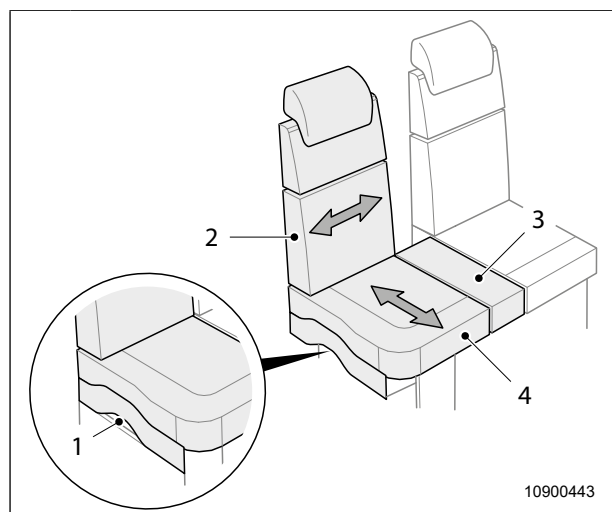

Fig. 21 Seat bench
1. Reach into the opening (Fig. 21, item 1) and pull the handle upwards.
2. Push the seat (Fig. 21, item 2) towards the other seat.
3. Clamp the compensating cushion (Fig. 21, item 3) between the seats.
1. Remove the compensating cushion (Fig. 21, item 3).
2. Reach into the opening (Fig. 21, item 1) and pull the handle upwards.
3. Push back the seat (Fig. 21, item 2).
1. Raise the seat cushion of the seating surface (Fig. 21, item 4).